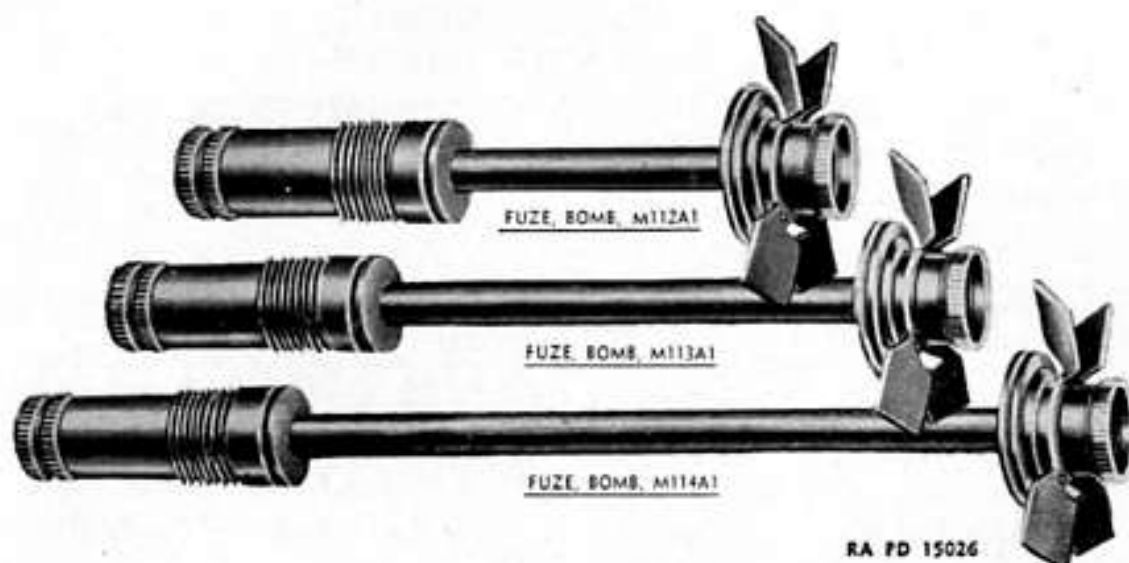

Figure 80, FUZE, bomb, M112A1, M113A1, and M114A1.
b. **Description.** Except for the length of the stem and the corresponding differences in length, weight, and bombs authorized, FUZE, bomb, M113A1 (tail) is identical with FUZE, bomb, M112A1 (tail) described in paragraph 57. (See fig. 80.) With the exception noted,
b. Description. Except for the length of the vane stem and the corresponding differences in over-all length, weight, and bombs authorized, this fuze is identical with FUZE, bomb, M112A1 (tail) described in paragraph 57. (See fig. 80.) With the exceptions noted, all statements concerning FUZE, bomb, M112A1 (tail) apply equally to the M114A1, and all statements concerning FUZE, bomb, M112 (tail) apply equally to the M114.